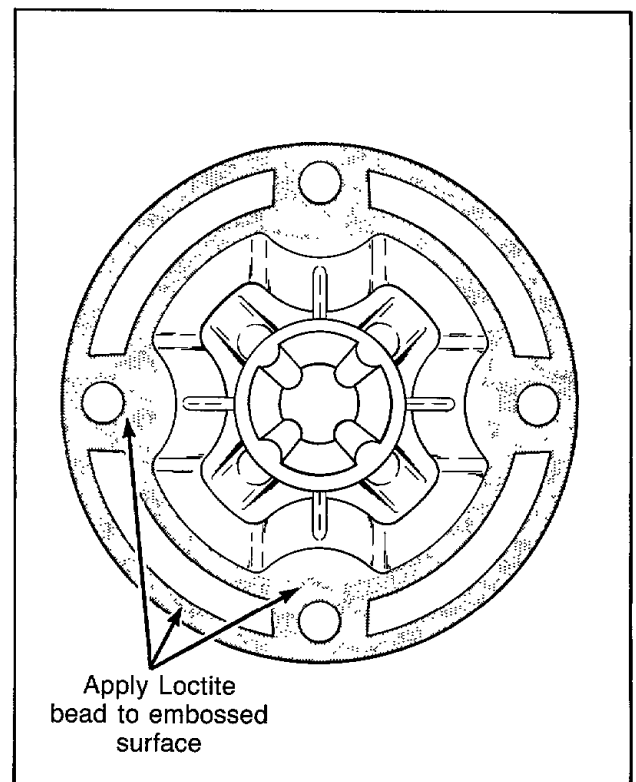

Figure 12
**Models equipped with Loctite -** Be sure all traces of old Loctite are removed from the hub and agitator post. Apply approximately a 1/16 diameter continuous bead of No. 28434P Loctite to the embossed surfaces of the agitator post, *Figure 12*.